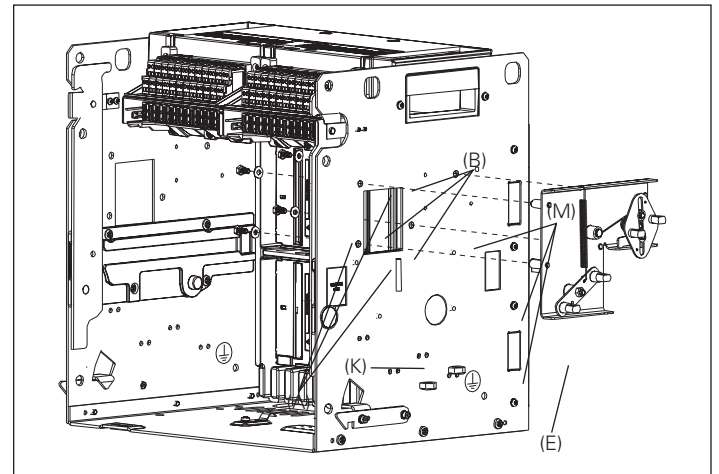
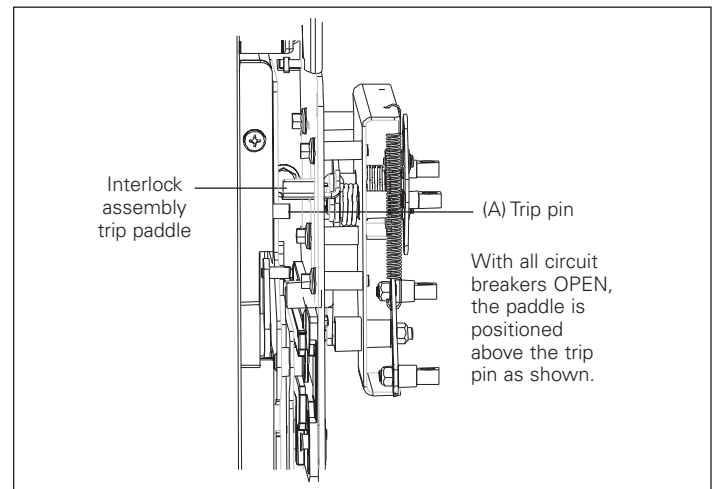

Figure 8. Details for Step 6
Figure 9. Details for Step 6
Fasten interlock assembly (E) to interlock mounting plate (K) using three M6 x 12 mm hex bolts (A) and lock washers (B) as shown in Figure 8. Torque to 4,5–5,6 N·m (40–50 in-lb). Then fasten interlock mounting plate (K) with attached interlock assembly to the right side of the breaker using three M5 x 12 mm screws (M) and one M5 square nut (L) as shown in Figure 8. Torque to 7,3–9,6 N·m (65–85 in-lb). Ensure that once attached to the breaker, the interlock assembly trip paddle is above the trip pin on the trip bar as shown in Figure 9.